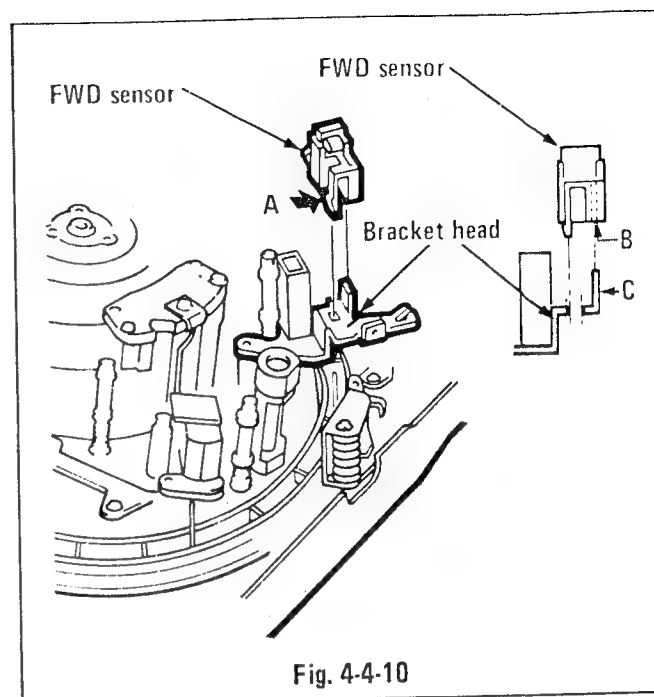

Fig. 4-4-10
10. FWD SENSOR (See Fig. 4-4-10.)